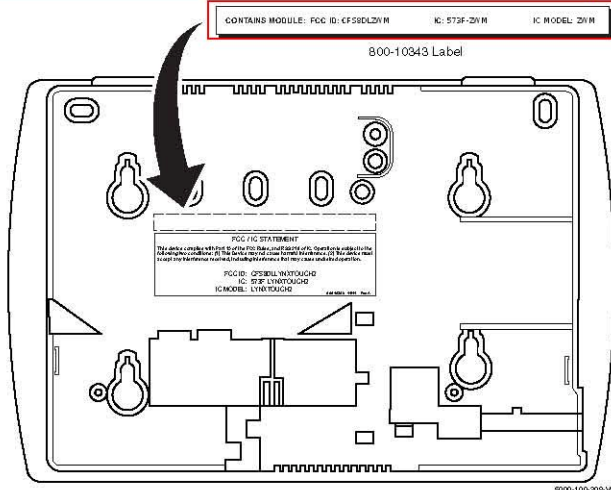

Figure 1. FCC/IC Label Location
1. Install the provided FCC/IC label (P/N 800-10342) on the control's case back (refer to Figure 1).